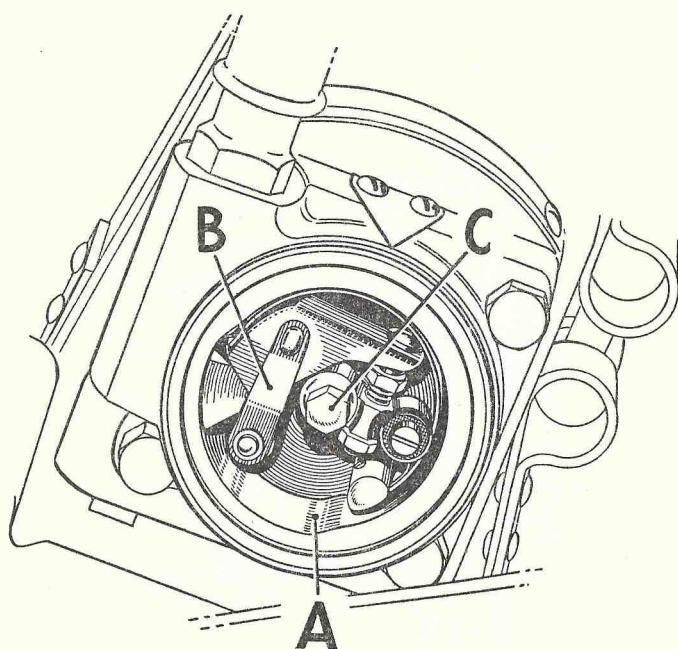

Fig. 32. Magneto Contact Breaker (Ring Cam).
The cam ring is lubricated from a felt pad set in the bottom of the ring. Every 3,000-4,000 miles apply a few drops of thin machine oil through the small hole (A), Fig. 32, in the lower edge of the cam ring. The rocker arm (B) must be removed and the pin lightly greased. Examine the contact breaker points and if they are burned or blackened clean the contacts with fine emery cloth or carborundum stone. Before the contact breaker rocker arm can be detached the contact breaker body must be removed from the armature spindle. Undo the central bolt (C) Fig. 32, and grip the central boss firmly with a pair of pliers. A sharp tug will free the body from its taper. Move aside the spring clip which retains the contact breaker arm and remove the screw which holds its spring to the body. The rocker can then be pulled from its shaft. Ensure that everything is perfectly clean before re-assembling.